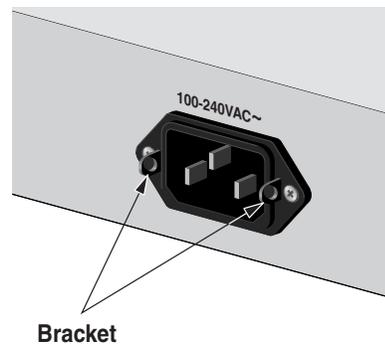

Figure 7. Power Cord Retaining Bracket
2. Locate the retaining bracket on each side of the AC power connector on the back of the switch, as shown in Figure 7.